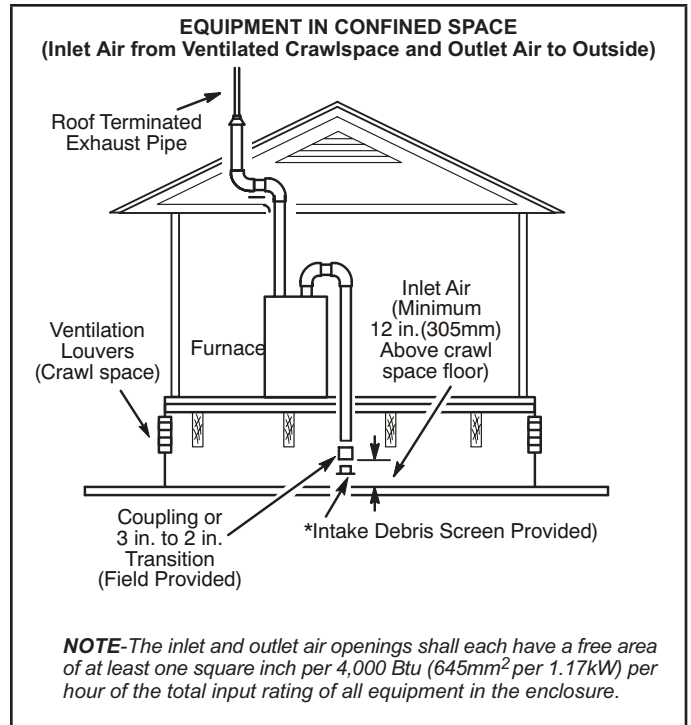
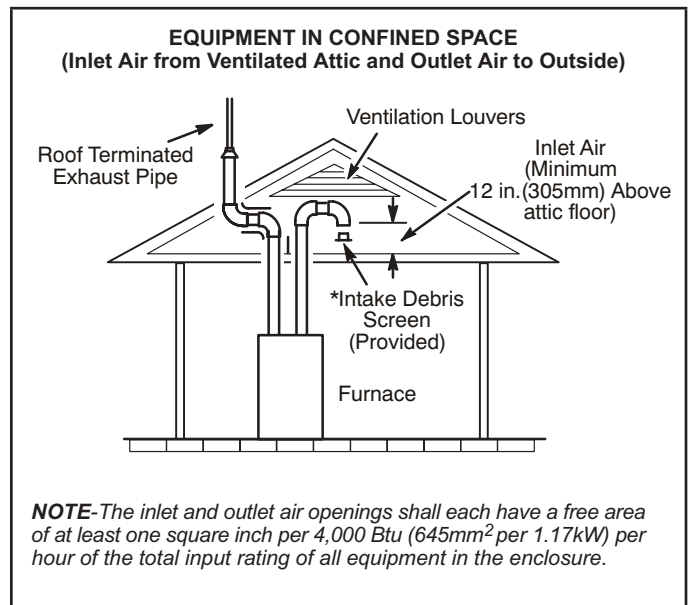

FIGURE 28
FIGURE 29
- 2 - 2 - If intake air is drawn from a ventilated crawlspace (FIGURE 28) or ventilated attic (FIGURE 29) the exhaust vent length must not exceed those listed in TABLE 19. If 3" diameter pipe is used, reduce to 2" diameter pipe to accommodate the debris screen.